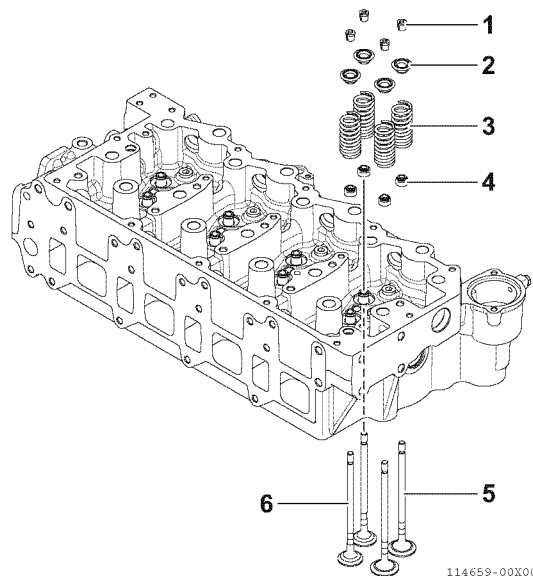

Fig.14-22
3. Remove the cotters (1, Fig.14-22).
5. Remove the spring retainers (2, Fig.14-22) and valve springs (3, Fig.14-22).
7. Turn the cylinder head so the exhaust port faces down. Remove the intake valves (5, Fig.14-22) and exhaust valves (6, Fig.14-22) from the cylinder head.
8. Remove the valve stem seals (4, Fig.14-22).